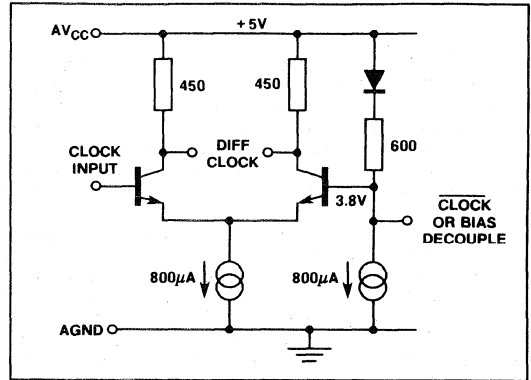

Fig.6 Clock input stage
**Clock Input (Fig. 6)**
The SP973T8 will operate at clock frequencies up to and above 30MHz. The clock input has been designed to accept a 1Vpp signal, in either differential or single-ended mode, between the  $V_{IH(MAX)}$  and  $V_{IL(MIN)}$  levels indicated in the electrical specification. At  $V_{IH(MAX)}$  or  $V_{IL(MIN)}$  the  $\overline{CLK}$  input will sink 800 $\mu$ A or source 3.2mA of current, respectively. (See Fig. 6)